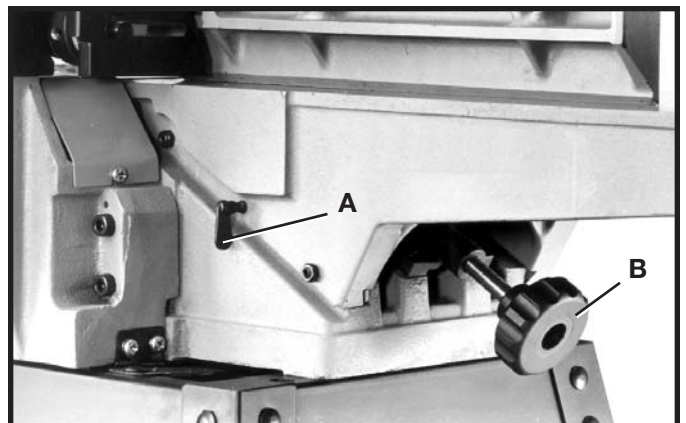

Fig. 38
For most jointing operations the outfeed table must be level with the knives at their highest point of revolution. This means that the knives must be parallel to the outfeed table and project equally from the cutterhead. To move the outfeed table up or down, loosen lock screw (A) Fig. 38, and turn hand knob (B). When the outfeed table is level with the knives at their highest point of revolution, tighten lock screw (A).